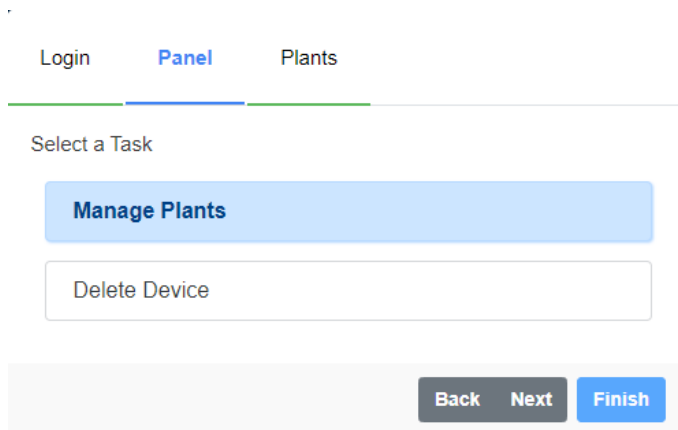

Figure 6.16: Task selection to the MFM of the Drive Scan
- Go to **Step 12** (if “Manage Plants” option - Figure 6.16);